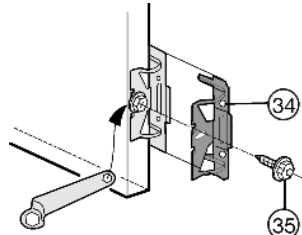

Fig. 12
- ▶ Fasten all mounting brackets Fig. 12 (34) with hex head screws Fig. 12 (35) to the pre-bored holes in the appliance door.